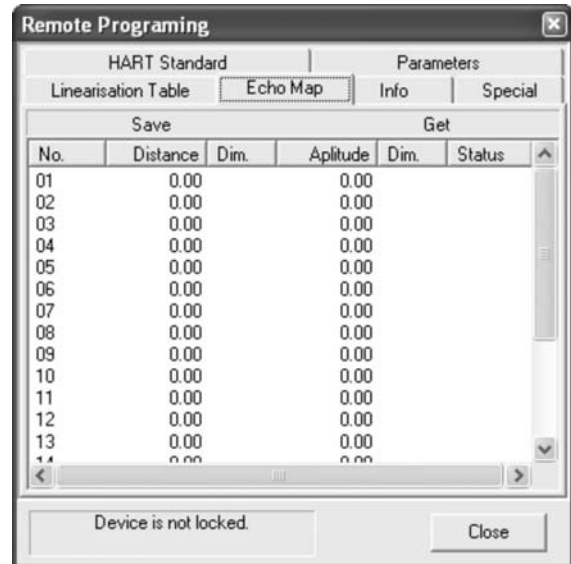

Figure 10. Echo Map Window
- Echo Map viewing (Figure 10)
Clicking on the *Echo Map* tab reveals the blank Echo Map table (Figure 10). For viewing the Echo Map data of the relevant field device click on *Get* speed button. The data may be saved to a file by clicking the *Save* button.